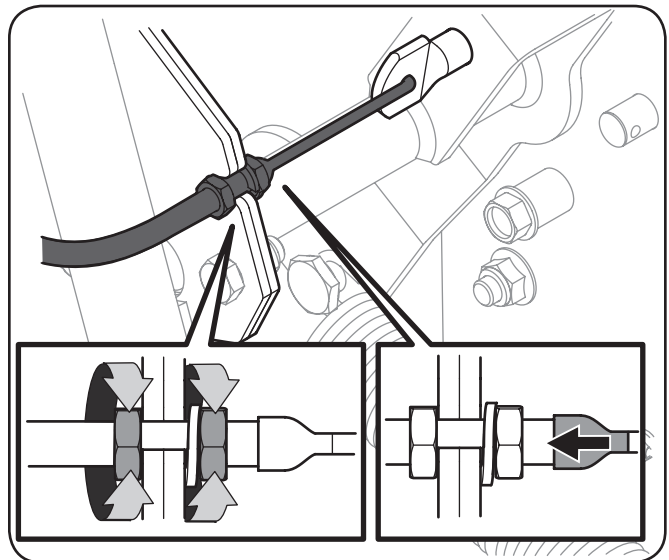

Figure 3-21
3. Pull the cable outward to take up slack, and tighten the jam nuts to secure the cable housing to the lift handle. See Figure 3-21.